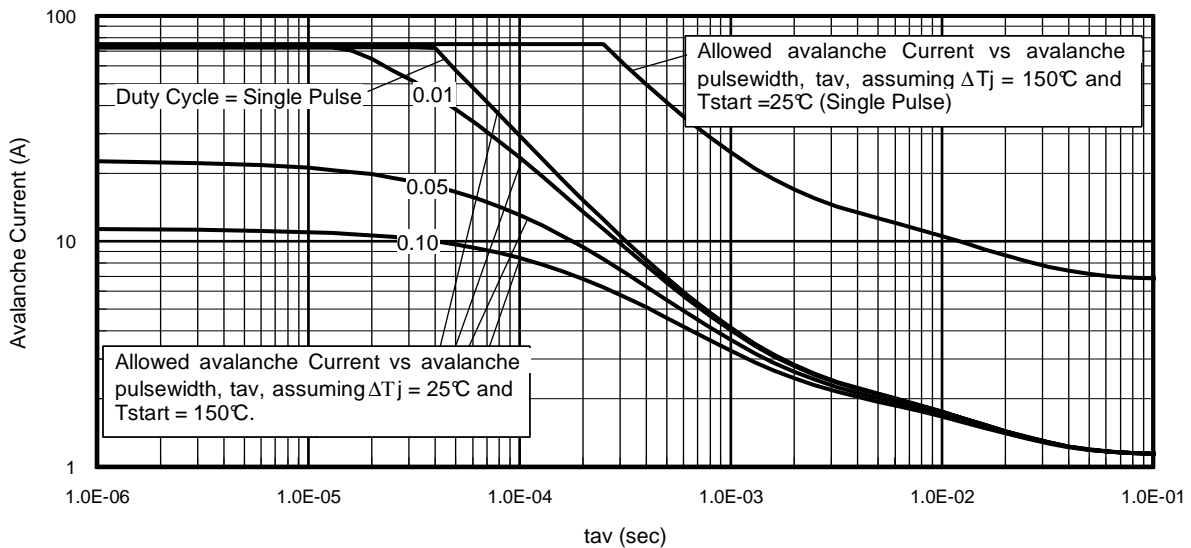

Fig 14. Typical Avalanche Current vs. Pulsewidth
Notes on Repetitive Avalanche Curves, Figures 14, 15:
- ΔT = Allowable rise in junction temperature, not to exceed T_{jmax} (assumed as $25^{\circ}C$ in Figure 14, 15).